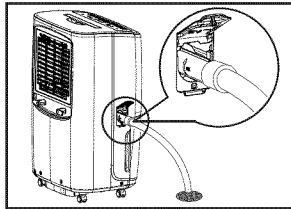

fig. 5
- d. Make sure the hose is secure so there are no leaks. (fig.5)
- e. Direct the hose toward the drain, making sure that there are no kinks that will stop the water flowing. (fig.5)